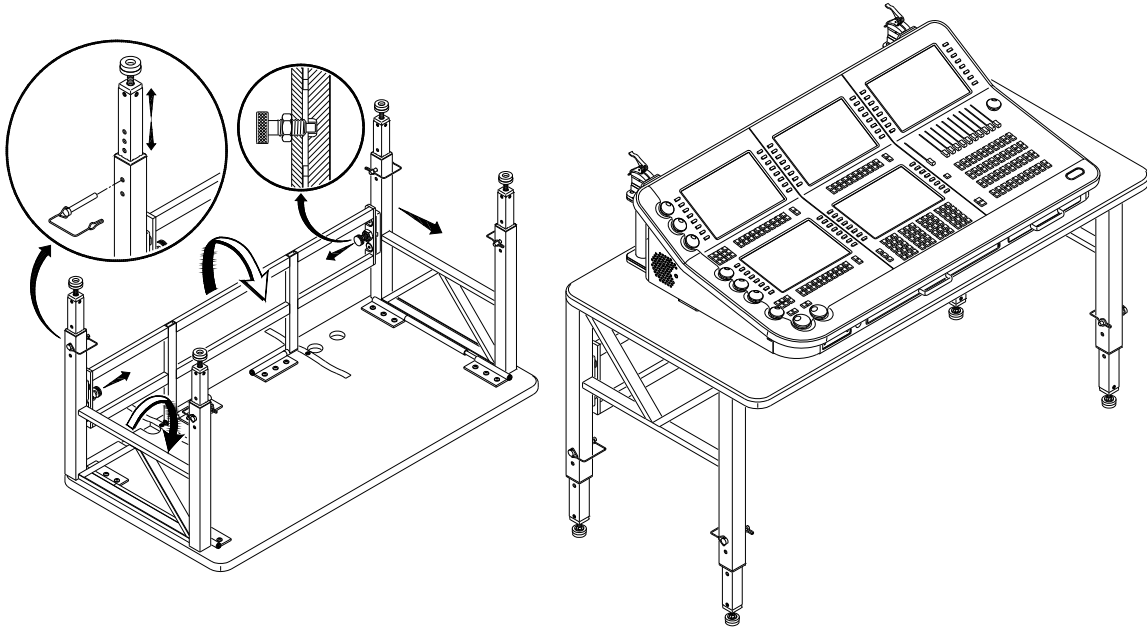

Figure 1-5: Setting Up V676 Console Table
- Step 3. Unfold table legs and brace. Snap into place (**Figure 1-5**).